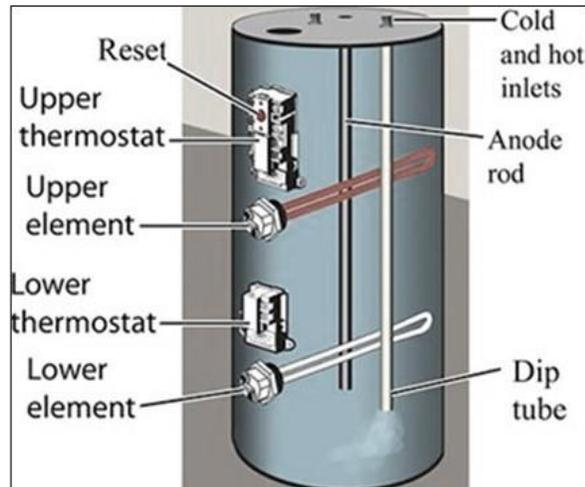

Figure 4. Typical water tank upper and lower thermostats and elements configuration.
- For servicing needs, unscrew lower cover plate on the water tank. Remove ONLY the control card, heating element and sensors as needed for troubleshooting or repairs. (Figure 4)